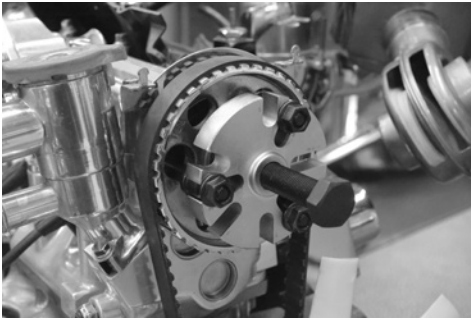

Fig. 1
- 3 The puller bridge disc is clearly etched with numbers. These numbers indicate which slots to use according to the number of slots or holes that are available for the puller to be attached to. See Fig. 1.